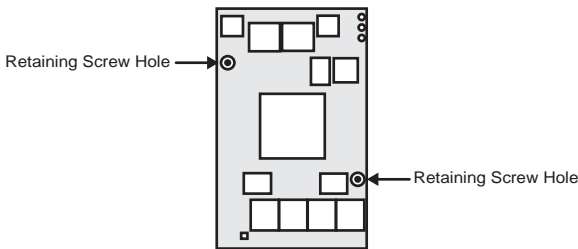

Figure 2 Squeeze & Tease MD Card
- Align the **Squeeze & Tease MD Card** so that the **3** connectors on the bottom of the card line up with the connectors in the **Squeeze & Tease MD Card Slot**. The **Retaining Screw Holes** on either side of the card will line up with the mounts on the board (**Figure 2**).